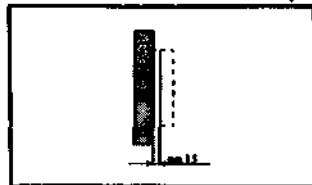

Fig. 2
**CHECK THE BRAKE PADS REGULARLY (FIGURE 2). IF THE THICKNESS OF ONE OR BOTH PADS HAS WORN TO WITHIN THE REGION OF 1.5 MM BOTH PADS MUST BE CHANGED. THIS OPERATION SHOULD BE CARRIED OUT BY A **AUTHORIZED PIAGIO SERVICE CENTRE OR DEALER**. AFTER FITTING NEW BRAKE PADS ACTIVATE THE BRAKE LEVER TO BED IN THE BRAKES AND RESTORE THE LEVER TO ITS CORRECT POSITION BEFORE RIDING THE SCOOTER.**